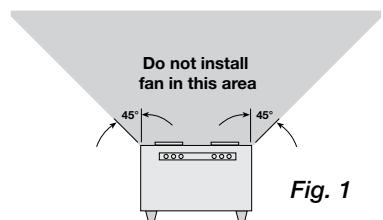

Fig. 1
1. For best performance, choose a location with the shortest possible duct run and minimum number of elbows. Do not mount near cooking equipment, as shown in Fig. 1.